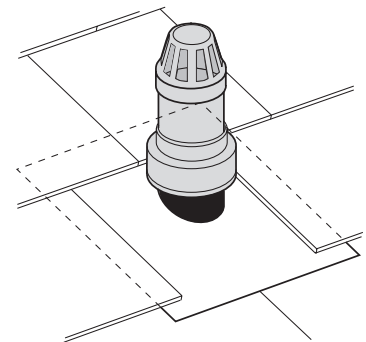

Fig. 20b Steps 2/3
**Step 2** – Remove the vent cowl. Solvent-weld **131 Weathering Apron** to pipe above rubber cone to prevent water ingress (Fig. 20b)